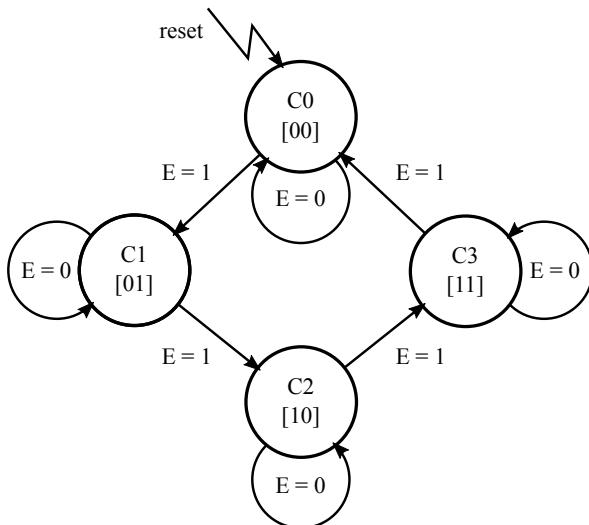

Figure 3.1: Finite State Diagram for 2-Bit Counter
In this assignment you're going to design a 2-bit counter which you will have to simulate in the lab using QuestaSim. The 2-bit counter should count up from 0 to 3 (denoted by count states C0 till C3 respectively) and is controlled by an external "enable" signal (E). If E is 1, the counter should increment on the rising clock edge. If E is 0, the counter should retain its value. The finite state diagram of the counter is shown in Figure 3.1.
- Derive expressions for  $Q_1^{n+1}$ ,  $Q_0^{n+1}$  from the state table in Figure 3.1. The K-maps of Table 3.2 can be used for that.